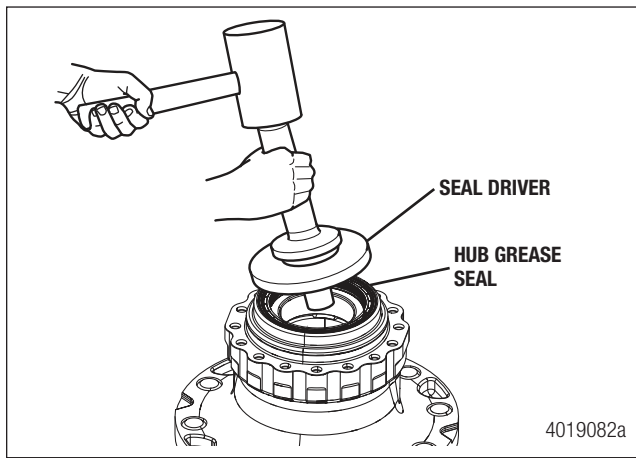

Figure 13.13
7. Install a new hub seal using the appropriate driver and ensure the seal is fully seated. See Section 20 Special Tools on page 69. Figure 13.13.